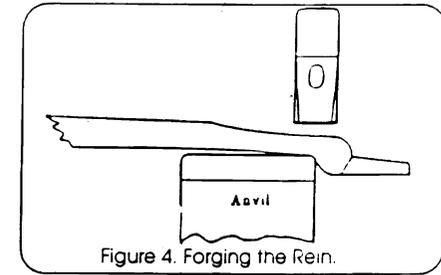

Figure 4. Forging the Rein.
4. At a third light welding heat give the bar another quarter turn to the left and at the far edge of the anvil, perpendicular to the edge, forge a third shoulder one inch or so from the first shoulder and on the opposite side. This defines the size of the boss. See Figure 4.